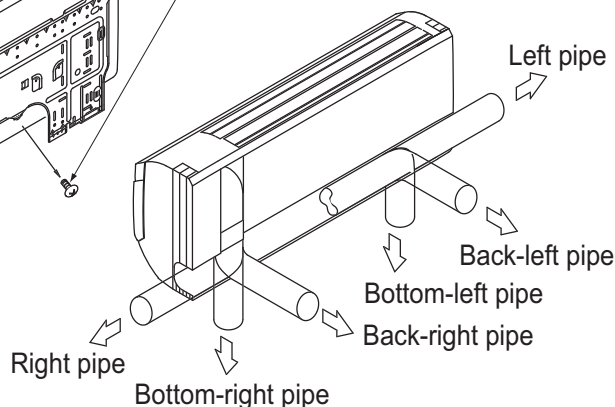

Fig. 4
- (a) Check the place for a hole for securing the installation plate (1).
- (b) Temporarily attach the installation plate (1) at the temporary-securing position using the hole, and use a level to make sure the plate is either level or its drain hose side is tilted slightly downward.
- (c) Secure the installation plate (1) to the wall using the attachment screws for the installation plate (2) or bolts.
- (2) Open the through-hole for the piping.
- The refrigerant pipe and drain pipe can be passed out in one of 6 directions: left, bottom-left, back-left, right, bottom-right, or back-right. (Refer to Fig. 4)
- Referring to the punch mark on the installation plate (1), choose where to pass the piping out and open a through-hole ($\phi 80\text{mm}$) in the wall.